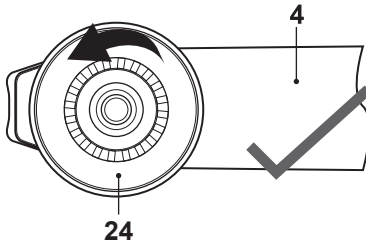

Fig. 3
5. Ensure the tension disc (24) is adjusted to inner right position, turn anticlockwise if required (Fig. 3, 4).